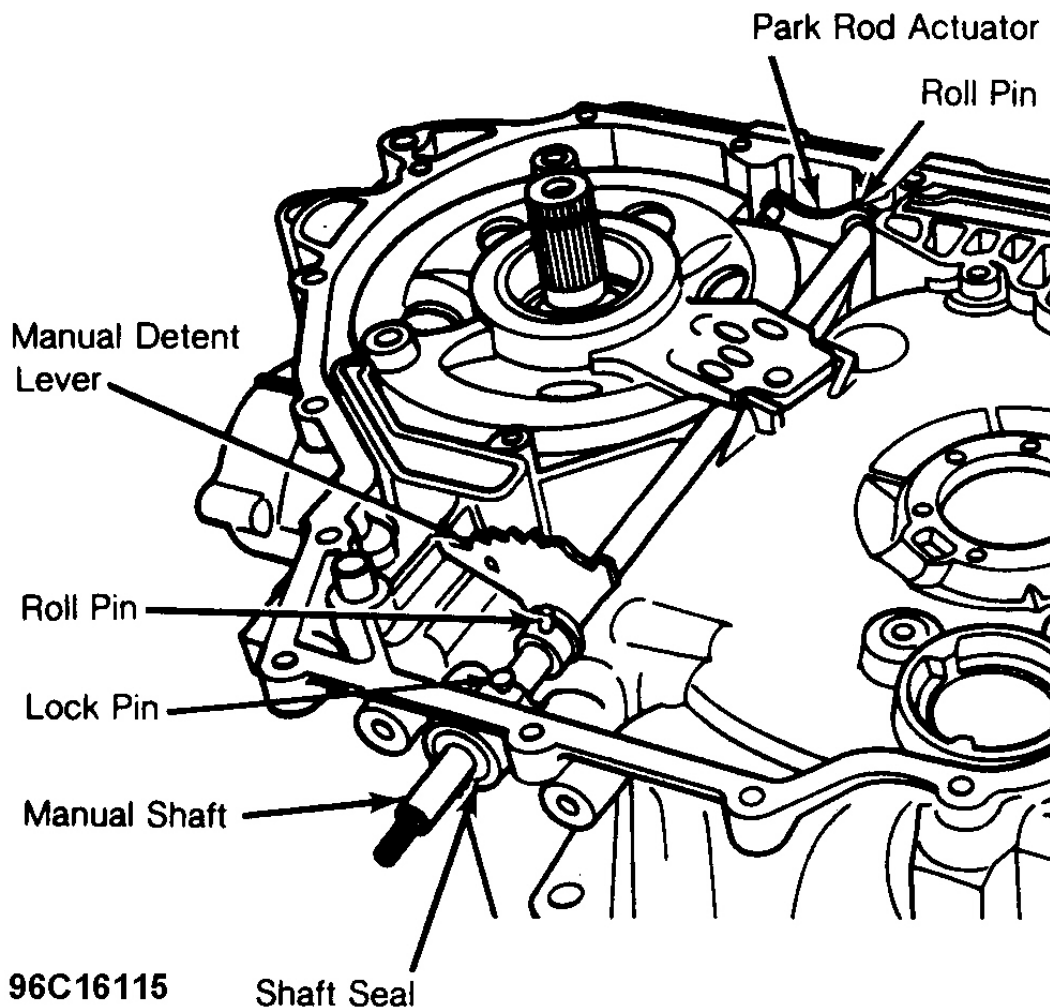

Fig. 9: Manual Shaft Lock Pin, Roll Pins & Seal Removal
14. Using Pin Remover (D81P-3504-N), remove lockpin and 2 roll pins from manual shaft. Be careful not to damage any machined surfaces. Slide shaft out of case, then pry seal from case. See **Fig. 9**.
15. Use a straightedge and note whether driven sprocket support machined bolt hole surface is above or below the case machined surface. See **Fig. 9** . Note for reassembly. Remove driven sprocket support assembly. Back out reverse clutch anchor bolt if necessary.